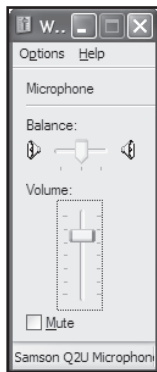

Figure 4
4. To set the gain of the microphone, click the **Volume** button in the **Sound recording** section to make the **Microphone** slider appear (figure 4). It will say "Samson Q2U" in the status bar at the bottom. Moving this slider will adjust the analog amplifier circuitry in the microphone.